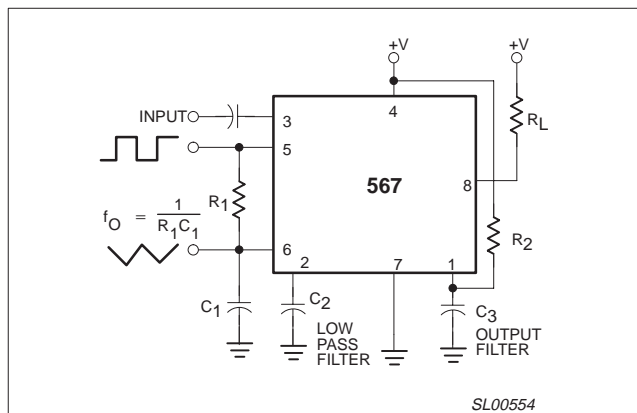

Figure 16. Typical connection
- With R2 = 130 kΩ from Pin 1 to V+. See Figure 16.
Figure 16 shows a typical connection diagram for the 567. For most applications, the following three-step procedure will be sufficient for choosing the external components  $R_1$ ,  $C_1$ ,  $C_2$  and  $C_3$ .